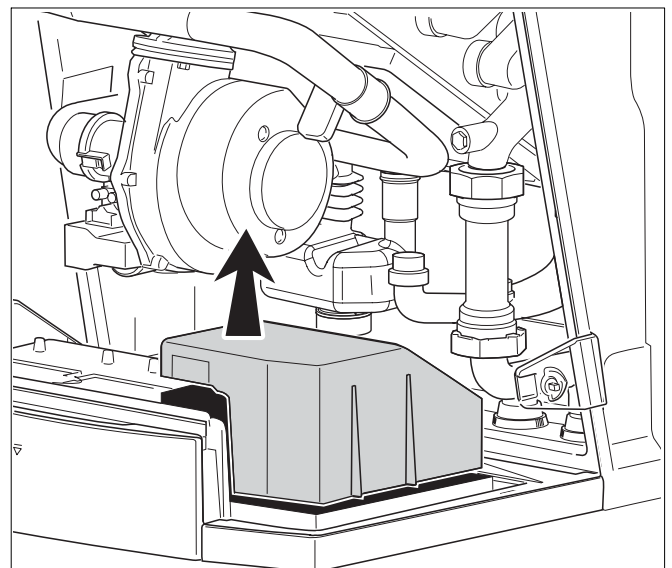

Fig. 45 Removing the cover from the connection box
- Remove the cover from the connection box (fig. 45).